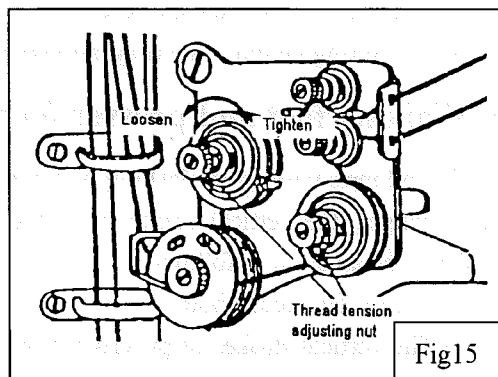

Fig.15
10. Upper thread tension (Fig.15):